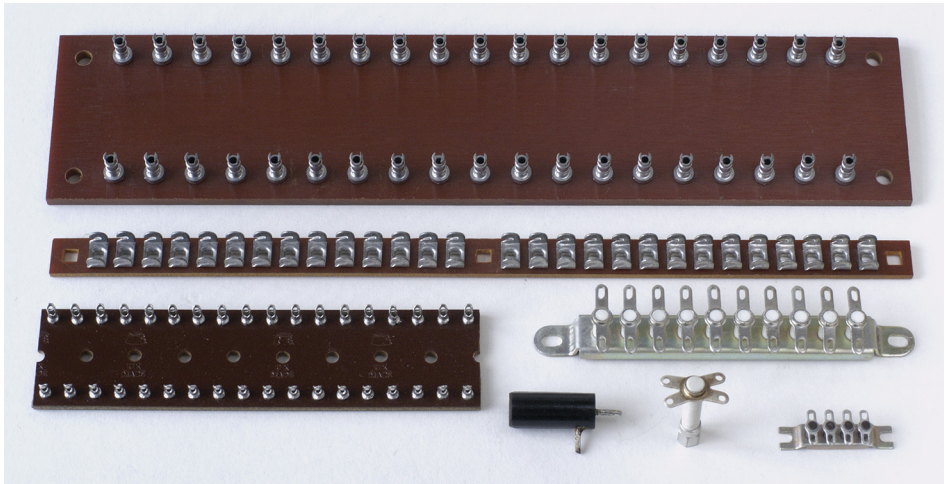

Figure 3.43
4. The preceding methods are two-dimensional. Interconnecting wire length can be further reduced if the assembly becomes three-dimensional. Components are now soldered directly to valve sockets and, if necessary, to nearby stand-offs, or perhaps a tag strip. Done well, this construction method offers low stray capacitance and leakage, but it needs considerable thought beforehand to keep the construction tidy and accessible for testing/maintenance. Tag boards, tag strips, and stand-offs are all useful ways of supporting components and joints insulated from chassis. See Figure 3.43.